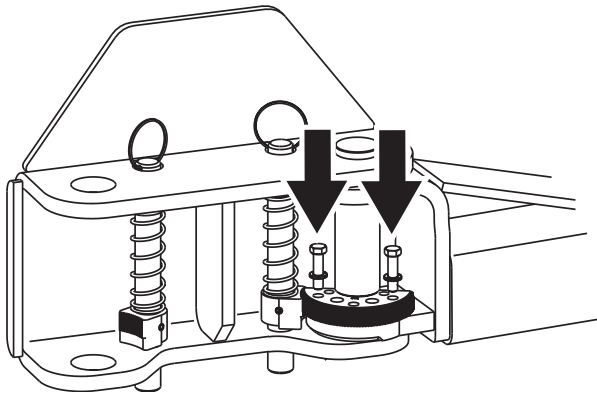

Fig. 17c
Then, install the (2) 3/8"-16NC x 1-1/2" HHCS (8 total for all 4 arms) and 3/8" Spring Lockwashers into the gear and arm, but do not tighten. Reference Fig. 17c, Fig. 18, and Fig. 19.